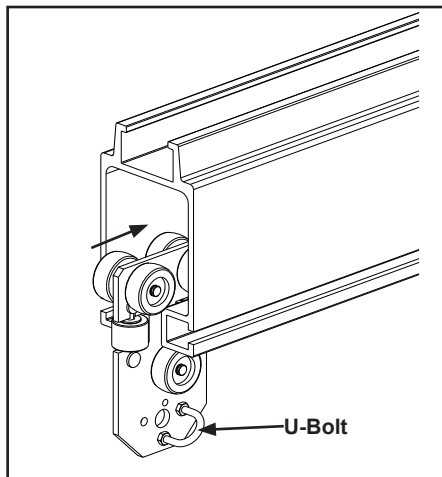
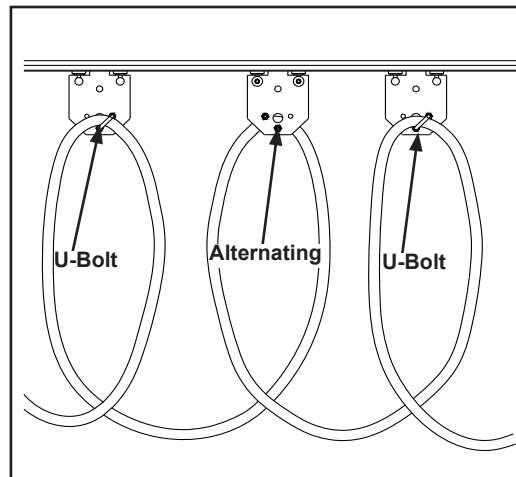

Figure 3-102
Figure 3-103
- Step 2. Roll Hose Trolleys into open end of rail, alternating direction the U-bolt faces on every other trolley. See Figure 3-102 and Figure 3-103.